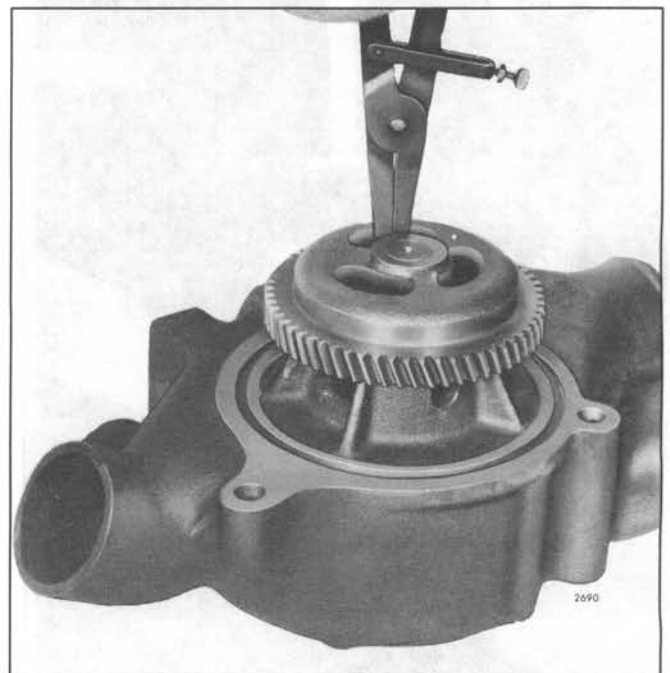

Fig. 10 – Removing Retaining Ring using Tool J 4646
1. Turn the pump gear so the slot is over the ends of the bearing retaining ring, insert pliers J 4646 into the slot and, with the aid of a small screwdriver, remove the ring from the groove (Fig. 10).
2. Turn the pump gear so the slot is over the ends of the bearing retaining ring, insert pliers J 4646 into the slot and, with the aid of a small screwdriver, remove the ring from the groove (Fig. 10).